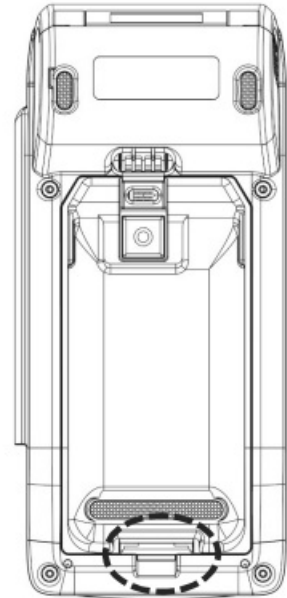

Figure 11
STEP 2: After installing the battery and press the battery latch gently as Figure 11.